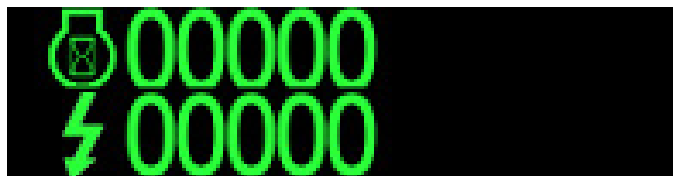

Figure 4.9 - Dual Power Hours
2. Once AC power has been detected by the secondary panel the main display main display control panel will change, see Figure 4.9.